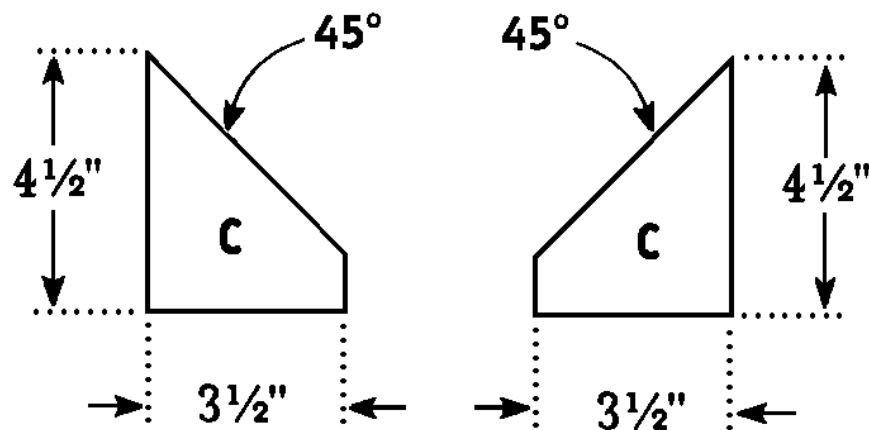

Figure 2
4. Cut two Side Supports (C) from 2 x 4 pine measuring 4-1/2 inches. Miter one end of both Side Supports (C) at a 45-degree angle, as shown in *Figure 2*.